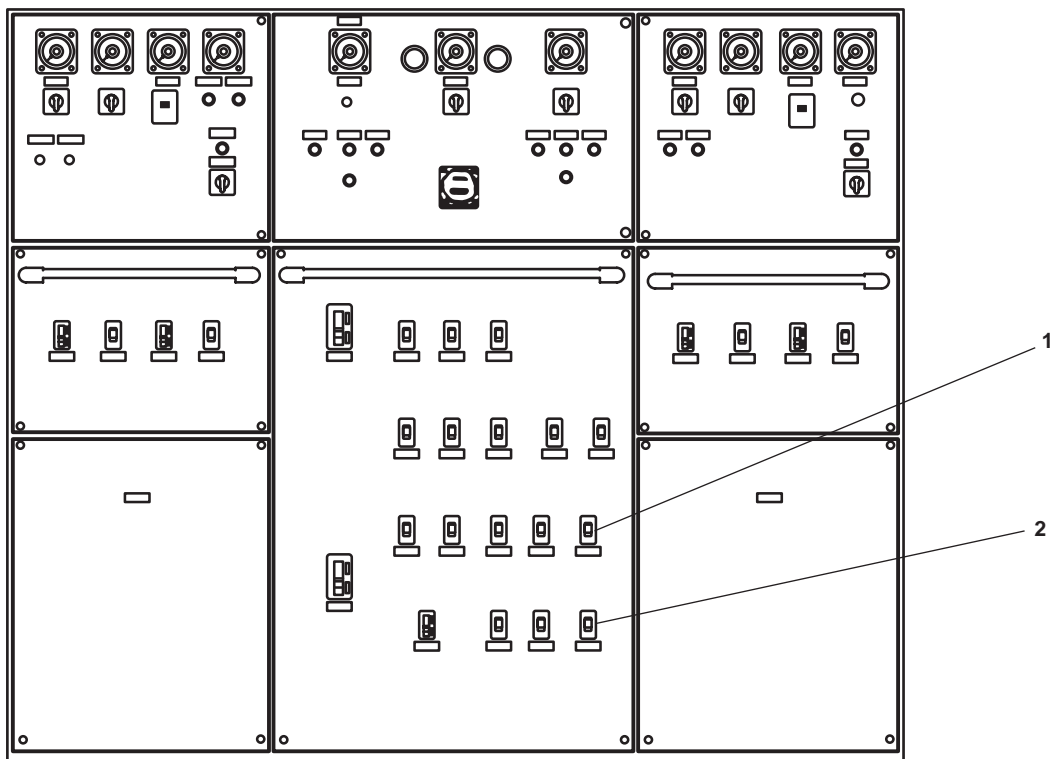

Figure 2. Main Switchboard
- b. At the main switchboard, in the EOS, set the FIRE PUMP NO. 2 circuit breaker (figure 2, item 1) to ON.